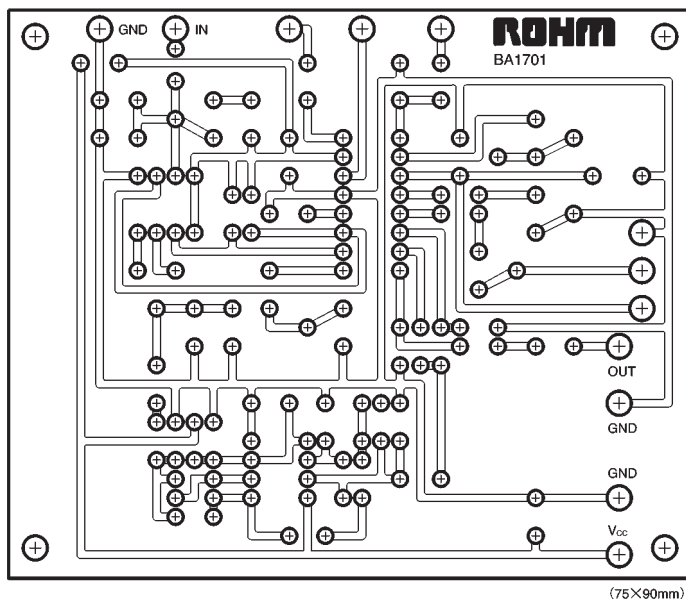

Fig. 6
- (1) Use accurate film capacitors for the VCO time constant capacitor C_{14} (0.22 μF), the RAMP time constant capacitor C_{17} (1 μF), and the BBD clock time constant capacitor (0.0047 μF).
- (2) If the AF output pin (pin 8) has a capacitive load, you must take precautions to ensure that the BA1701 AF amplifier does not oscillate. We recommend that you insert R_{19} (about 10k Ω) in the signal output line.
- (3) To prevent oscillation, position the earth point of the BBD clock time constant pin (pin 9) close to the GND pin (pin 13) (see Fig. 6).